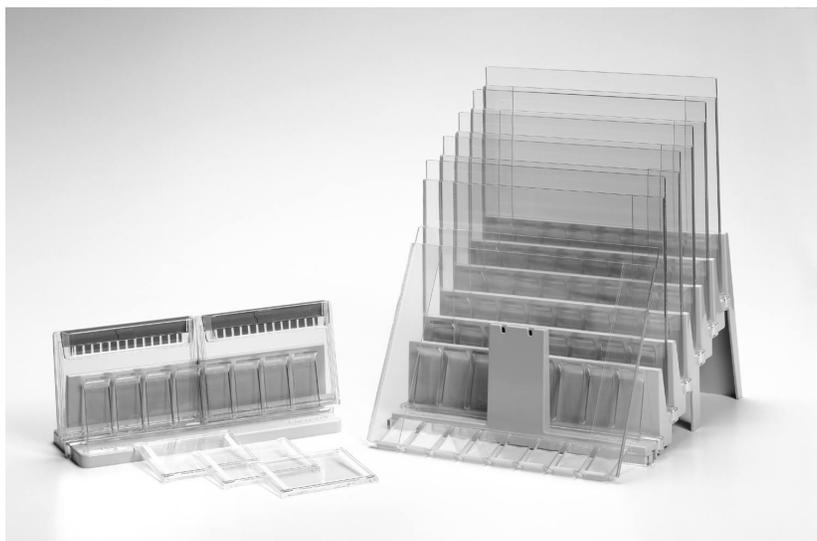

Fig. 1. The AnyGel Stands.
2. Position the clamp on the base so the straight edge is against the wall and the clamp curves towards the front at the top (see Figure 1 for correct orientation).